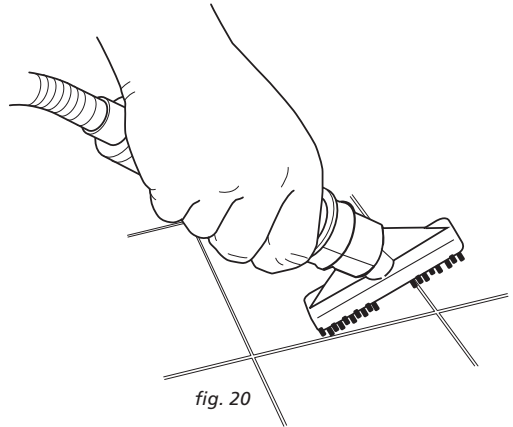

fig. 20
- 2 Select either DUST, MOP or SCRUB mode by pressing the ON/STEAM SETTING button and wait until the selected setting indicator light turns solid blue. Hold down the steam trigger to start steaming. (fig. 20)